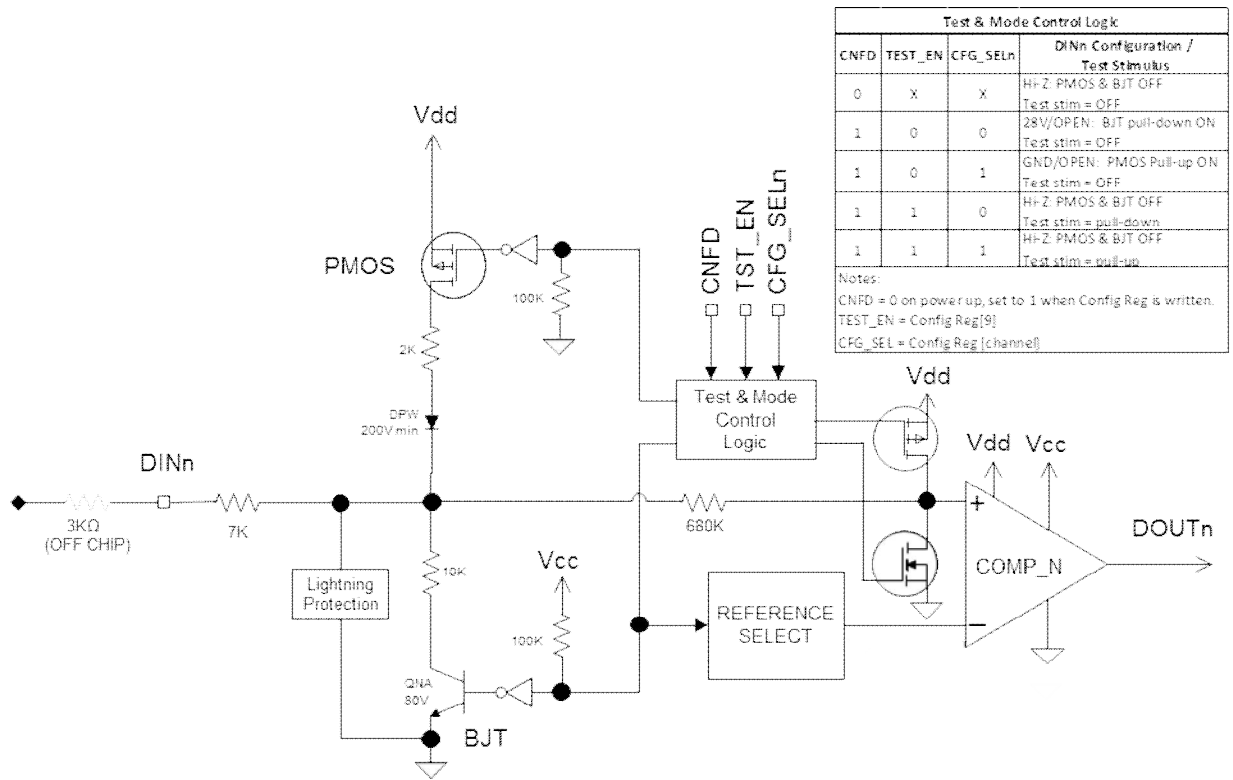

Figure 3 Discrete AFE Function Diagram
The Discrete Input Analog Front End circuit function is represented in Figure 3. Each DIN_n signal is conditioned by the resistor / diode network and presented to a comparator with hysteresis. When the input is configured for GND/OPEN operation, the pull-up resistor and diode are enabled and comparator threshold voltage is selected. When the input is configured for 28V/OPEN operation, the pull-down resistor is enabled and the comparator is appropriately configured. Prior to configuration (after power up) and during BIT, neither pull-up nor pull-down is enabled and the AFE presents a high impedance (Hi-Z).
Bit 9 of the Configuration Register (CR) is used to enable or disable Built-in Test (1 = BIT enabled, 0 = NORMAL). When BIT is enabled, each channel configuration bit value is used to drive a test stimulus on the respective channel comparator (see Figure 3). Thus all channels can be tested by setting the BIT mode, programming test stimulus patterns into the CR, and reading the results from the DR. The DIN inputs are placed in Hi-Impedance mode (pull up and pull down switches are OFF) during test mode, so the test does not interfere with the DIN signals. The BIT test stimulus is isolated from the DIN pin by 680KΩ.